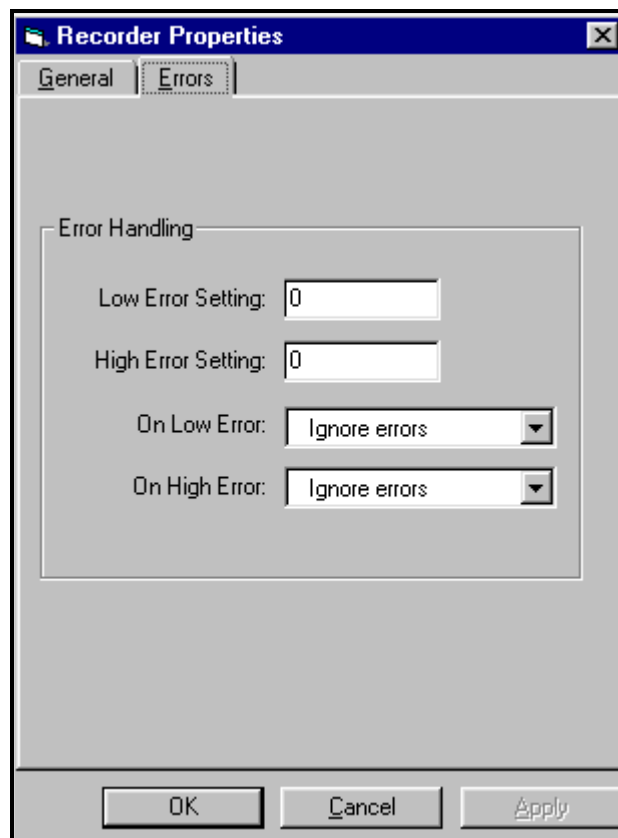

Figure 4-6: Error Handling Tab
1. To program the **MMS-3** for error handling, click on the “*Errors*” tab. The screen appears similar to Figure 4-6 below.